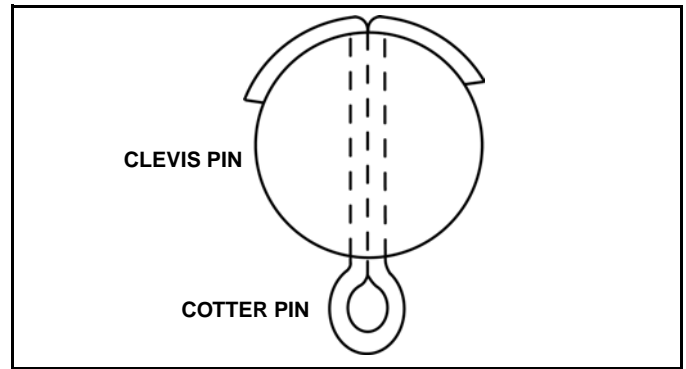

Figure 1-9
*NOTE: Make sure cotter pin is properly bent or pin may work loose (See Figure 1-9).*